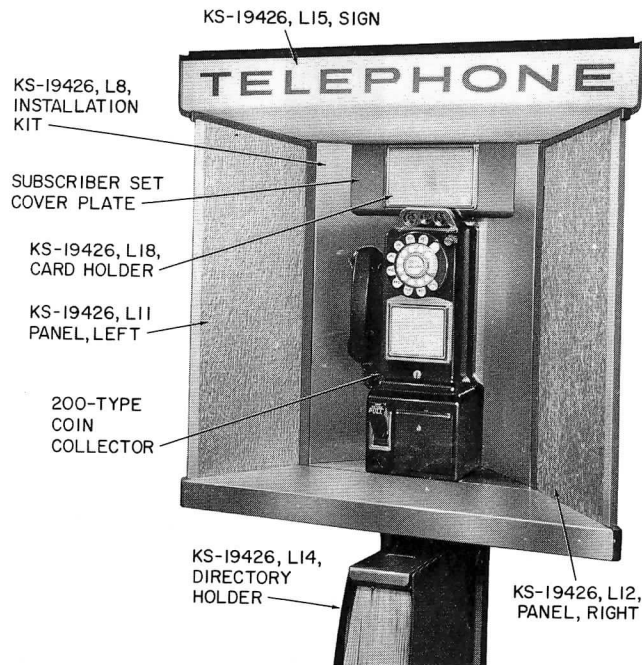

Fig. 9 — KS-19426 Mounting, Using 200-Type Coin Collector
3.02 The 200-type coin collector, plus 685-type subscriber set, may also be used with KS-19426 mounting but requires a List 8 installation kit. This kit consists of mounting screws, 685-type subscriber set adapter, left and right side shrouds, bottom plate, and subscriber set cover plate. See Fig. 9.
- (b) Acoustic panels are available when required. Fig. 9 and 10 show acoustic panels.